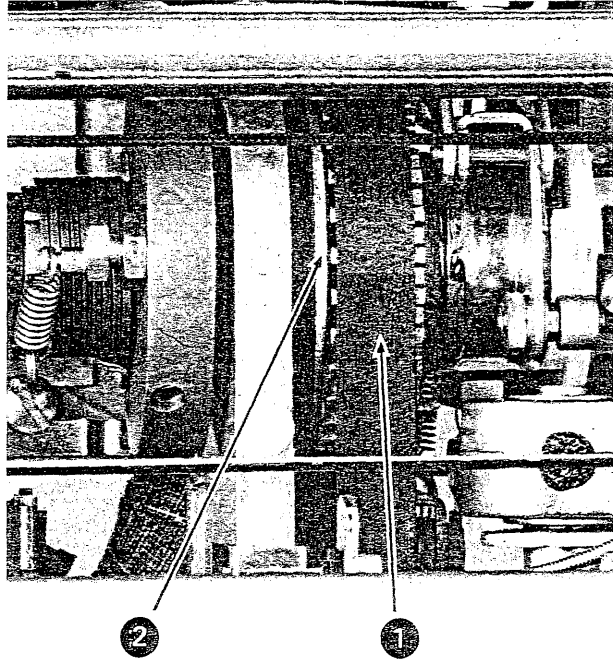

Figure 4-11. Cycle-Clutch-Pulley Removal
2. Remove the belt from the pulley (No. 1, Figure 4-11).
3. Remove the two setscrews from the same hole in the pulley. One is used on top of the other as a lock screw (No. 2, Figure 4-11).